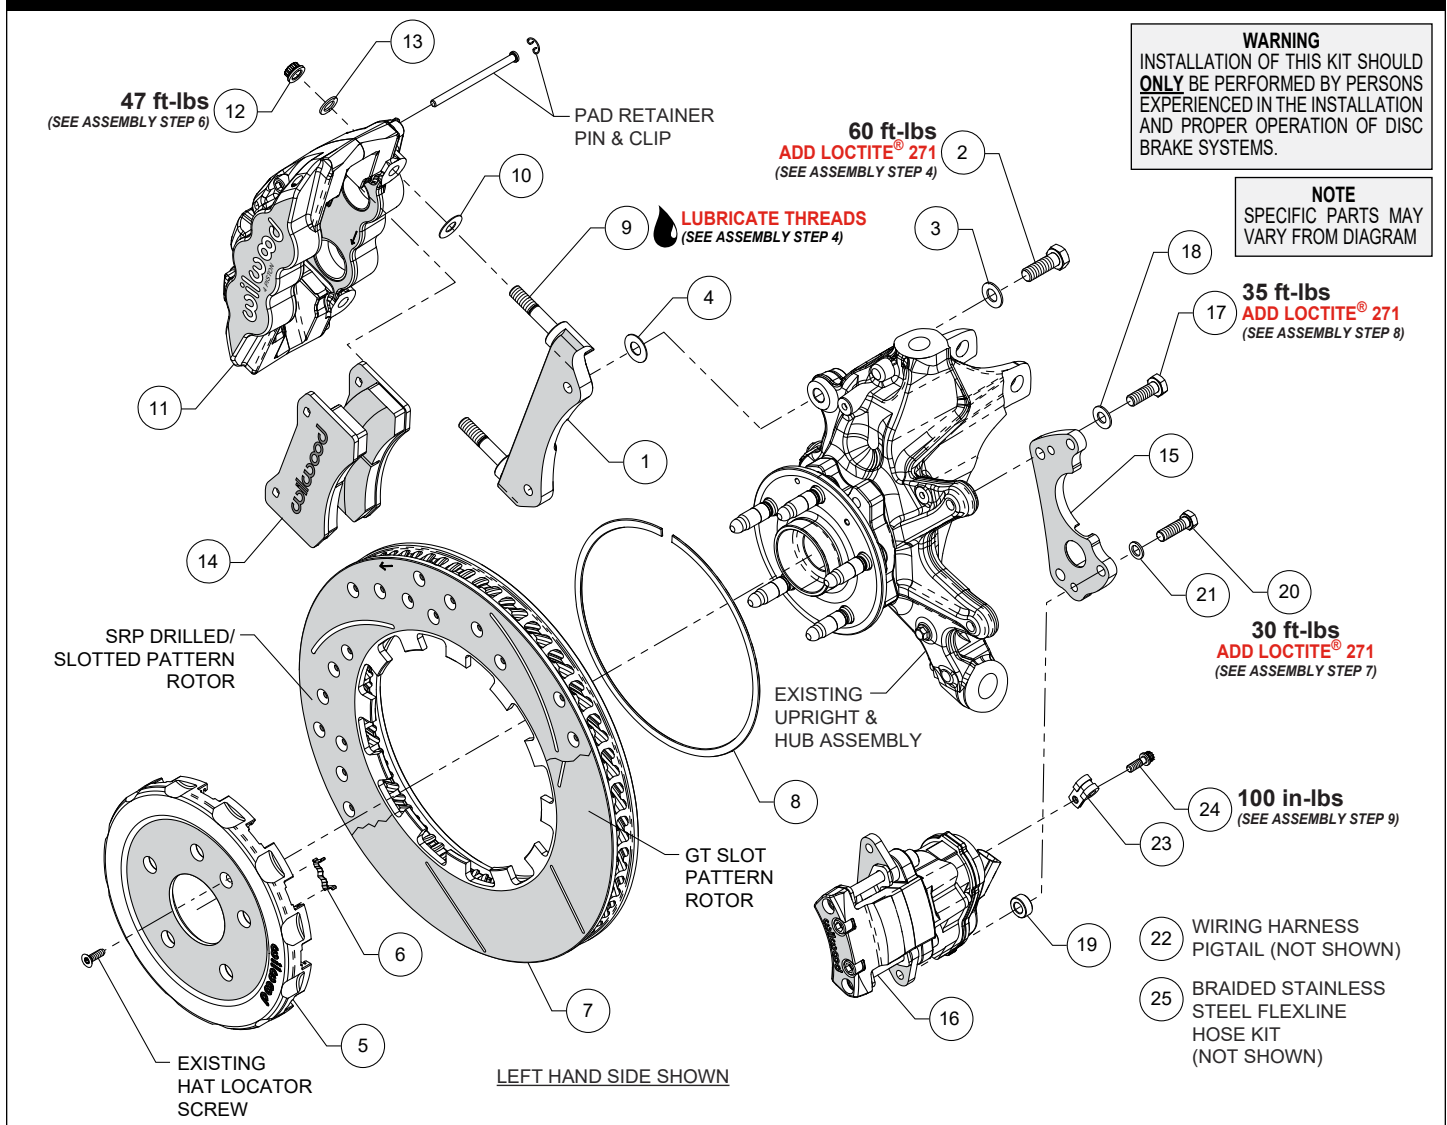

Figure 1. Typical Installation Configuration
NOTE: Numbers in parenthesis refer to the parts list and Figure 1 on the preceding pages.
STEP 1 The caliper mount bracket (1) should initially be installed with clean, dry threads on the mounting bolts. Orient the bracket, as shown in Figure 1 and Photo 1, and install using bolts (2) and washers (3). Initially place one .033" thick shim (4) on each bolt between the bracket and upright, Figure 1. Temporarily tighten the mounting bolts. **NOTE:** *The bracket must fit squarely against the mount bosses on the upright.* Inspect for interference from casting irregularities, machining ridges, burrs, etc. Later, after the caliper alignment has been checked, the mount bolts will be secured using red *Loctite*® 271.
STEP 2 Insert the dynamic mount wear clips (6) into the slots in the hat (5), Photo 2 and 3. Orient the rotor (7) as shown in Figure 1 and Photo 4, with the flush side of mount lugs facing the hat. Secure the rotor to the hat using the snap ring (8) by simultaneously pushing down on the rotor and installing the ring into the groove in the hat, as shown in Photo 5. Carefully inspect snap ring to ensure complete engagement in the groove.
STEP 3 Slide the hat/rotor assembly onto the axle hub, Photo 6. **NOTE:** *The hat must fit flush against the axle hub flange or excessive rotor run out may result.* Install the hat locator screw (OEM), as shown in Figure 1, to keep the hat/rotor assembly in place while continuing with the installation.
STEP 4 **NOTE:** *This kit contains distinct right and left hand calipers that must be mounted in a specific direction, as described below.* Lubricate the caliper mounting studs (9) with lightweight oil. Initially place one .030" thick shim (10) on each stud between the caliper and the bracket, as shown in Figure 1 and Photo 7. Mount the caliper (11) onto the bracket (1) using lock nuts (12)
and washers (13), Figure 1. Temporarily tighten the lock nuts. Ensure that the caliper is mounted so the largest pistons are at the rotor exit end of the caliper, in relation to the forward direction of the rotor. View the rotor through the top opening of the caliper. The rotor should be centered in the caliper, Photo 8. If not, adjust by adding or subtracting shims (4) between the bracket and the upright. Always use the same amount of shims on each of the two mounting bolts. Once the caliper alignment is correct, remove the bracket mounting bolts (2) one at a time, apply red *Loctite*® 271 to the threads, and torque to value shown in Figure 1.
STEP 5 Remove the caliper (11) from the bracket (1), then remove the clips and pad retaining pins from the caliper. Insert the brake pads (14) into the caliper from the bottom side, with the friction material facing the rotor, as shown in Photo 9. Secure the brake
pads in place with the pad retaining pins and clips, Figure 1 and Photo 10.
STEP 6 Reinstall the caliper onto the caliper mounting bracket and temporarily tighten the lock nuts (12). Check that the top of the brake pad is flush with the outside diameter of the rotor, Photo 11. If not, adjust by adding or subtracting shims (10) between the caliper and the bracket. After the caliper pad height is set, torque the caliper lock nuts (12) to value shown in Figure 1.
STEP 7 Attach EPB caliper mounting bracket (15) to EPB caliper (16) using bolts (20), washers (21), and spacers (19) as shown in Figure 1 and Photo 12. Apply red *Loctite*® 271 to the bolt threads, and torque to value shown in Figure 1.
STEP 8 Mount the EPB caliper assembly (15 and 16) to the mounting bosses of OEM upright using bolts (17) and washers (18) as shown in Figure 1 and Photo 13. **NOTE:** *The bracket must fit squarely against the mount bosses on the upright.* Inspect for interference from casting irregularities, machining ridges, burrs, etc. Apply red *Loctite*® 271 to the bolt threads, and torque to value shown in Figure 1.
STEP 9 Connect OEM electronic parking brake wire harness to Wilwood electronic parking brake using included wiring pigtail harness (22), Photo 14. Secure wiring pigtail harness to unused threaded hole on EPB housing using clamp (23) and bolt (24), Photo 14. Torque bolt to value shown in Figure 1. Carefully bend clamp over as shown in Photo 14 to provide maximum wheel clearance. **Ensure wiring is routed to prevent contact with moving suspension, brake or wheel components.**
STEP 11 Attach supplied brake line to caliper. **NOTE:** *OEM rubber brake hoses generally cannot be adapted to Wilwood calipers.* Install Wilwood's stainless steel braided flexline hose kit (25), P/N 220-17008 included with this kit. The caliper inlet fitting is a 1/8-27 NPT. Use the included steel adapter fitting at the caliper (use PTFE tape on the pipe threads of adapter fitting for proper sealing to caliper). Route line as shown in Photo 15. Reuse existing OEM brake line bracket bolt and mounting location to secure Wilwood flexline bracket, Photo 15 (arrow).